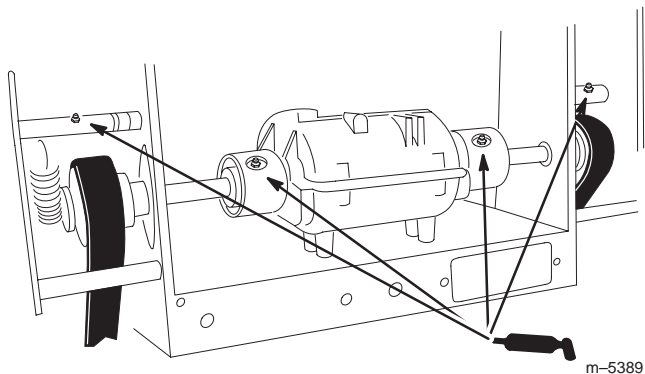

Figure 37
2. Lubricate the transmission couplers after every 100 operating hours and the idler bracket pivots after every 8 operating hours (Fig 37).